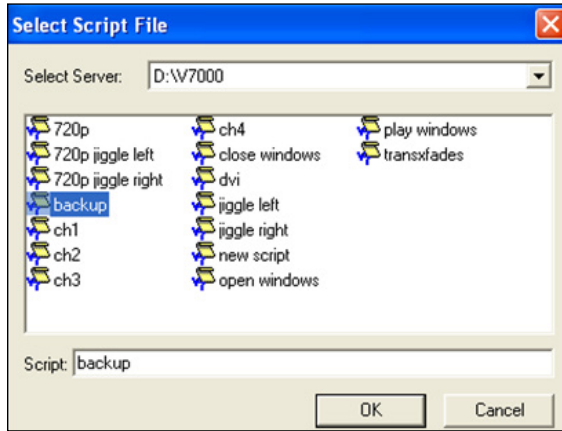

Figure 26: Selecting Script File
3. Enter the name of the desired script file or name a new one in the **Select Script File** pop-up window and click **OK** to continue. Refer to **Figure 26**. This example uses the name **backup**.